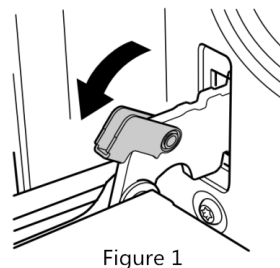

Figure 1
- ① Open the door to the maximum angle and pull the lock back at the hinge of the door(Figure 1). There are two locks on both sides of the oven door.